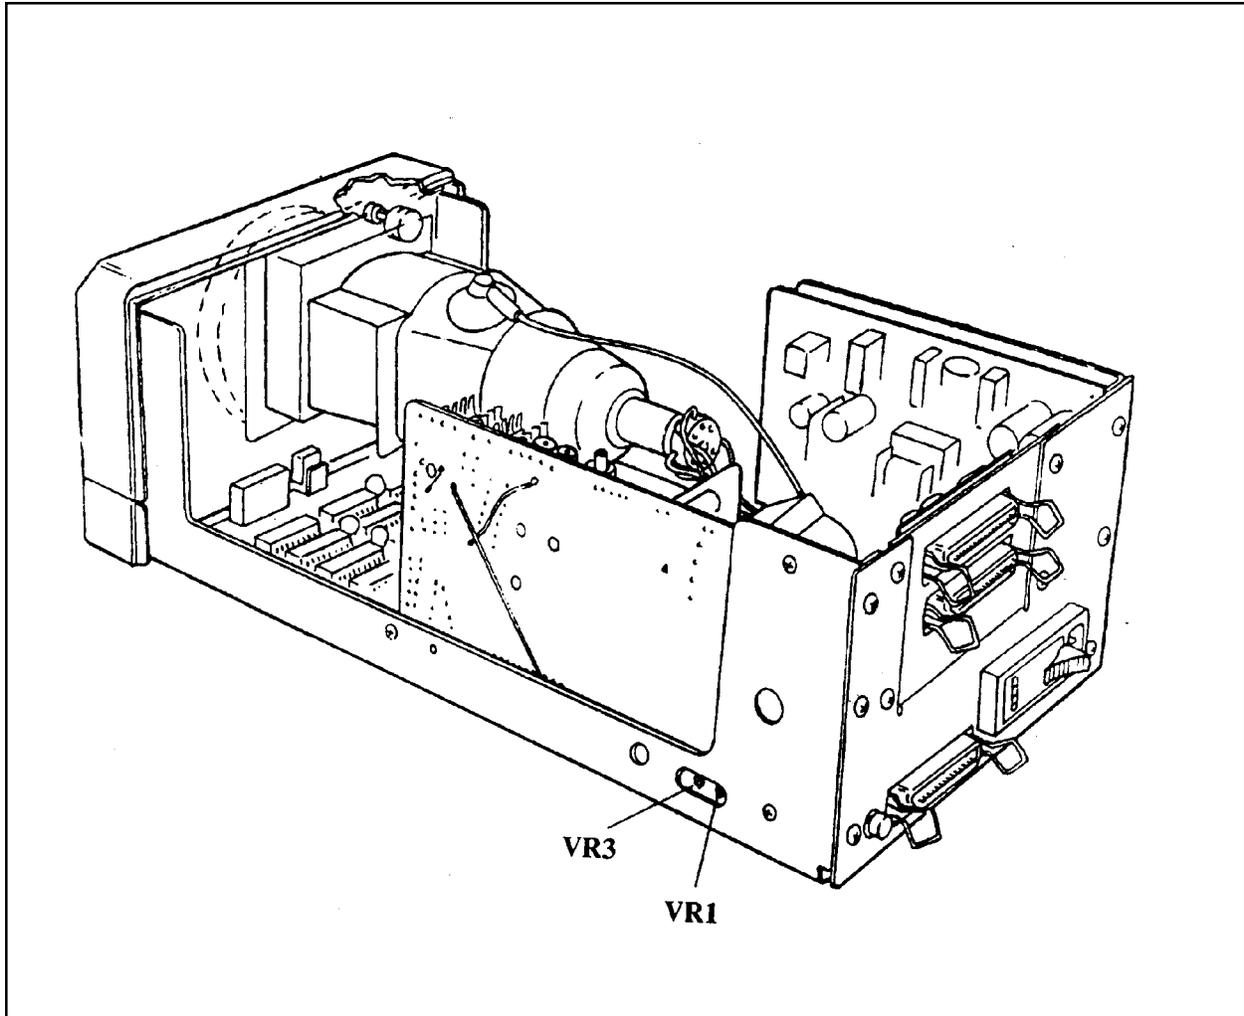

Figure 5-5. Autoluminant Adjustment
5. Following the Gentest procedure, set the Dark Current to 4 by adjusting VR3 on the Logic Board (Figure 5-5). The Dark Current Level will appear on the Gentest menu.
10. Adjust the VR1 pot on the Logic Board (Figure 5-5) until the Gentest Autoluminant on the screen **reads 200.**